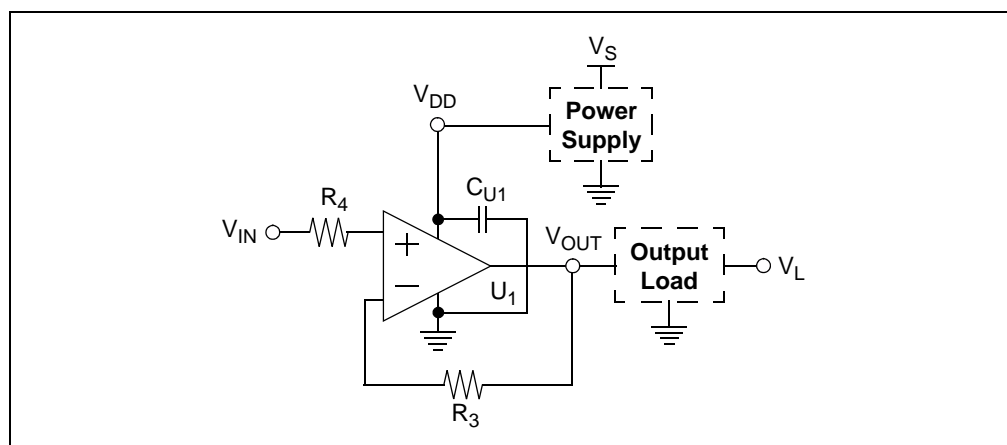

FIGURE 2-10: Voltage Follower Circuit Diagram.
- The Mindi™ Amplifier Designer gives design recommendations for the voltage follower circuit; see the circuit diagram shown in Figure 2-10